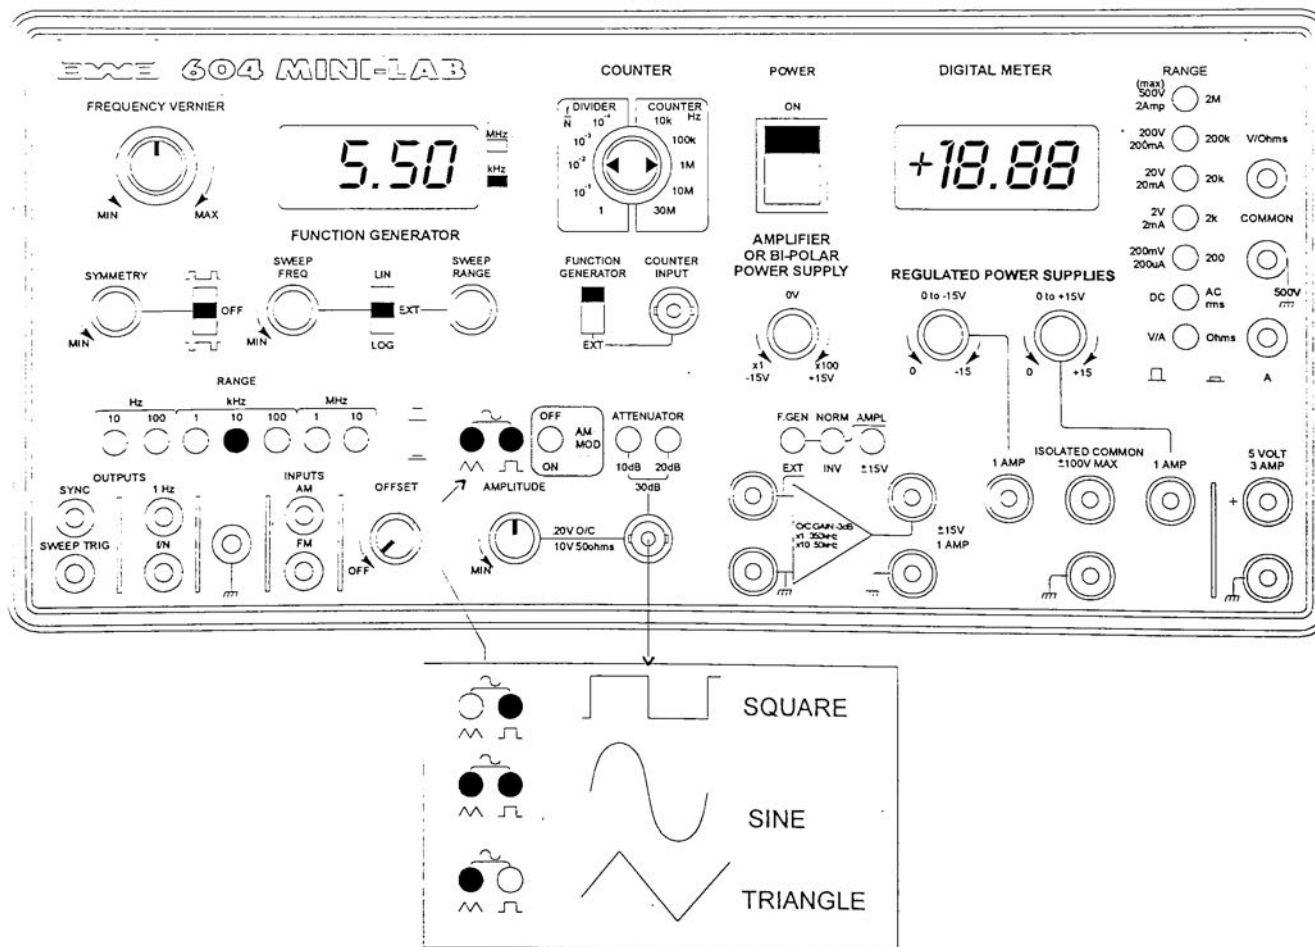

Fig 4.1
16. Waveform Selector switches. Both switches out, output waveform is sinusoidal. Left hand switch only pressed in, output waveform is triangular. Right hand switch only pressed, only waveform is rectangular. (See Fig 4.1)
4.1 Operation of the Function Generator. (See Fig 4.1)